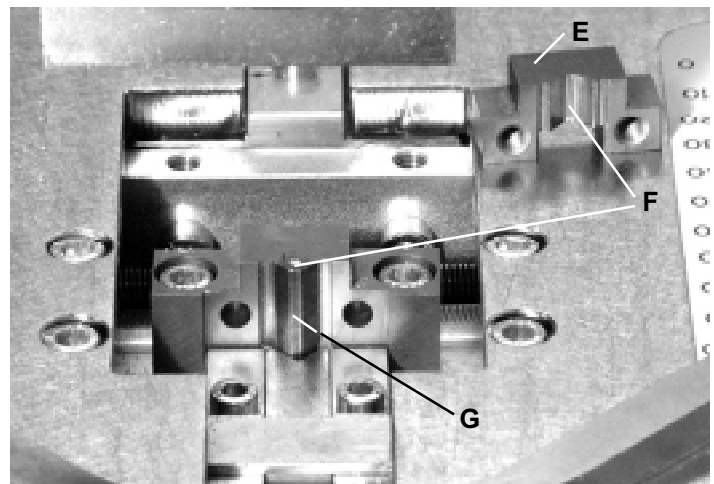

Figure 15
- d. Figure 15 is viewed from the rear. Remove the rear half of the **Hammer Block (E)** and wipe the hammer path (**F**) clean.
- e. Depress the **Foot Pedal** to expose the **Hammer (G)** and wipe it clean.